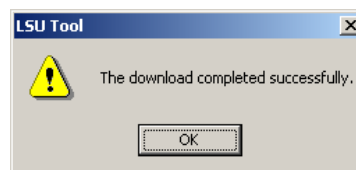

Figure 167: Successful Firmware Upgrade
3. If the upgrade is successful, the following window appears (Figure 167).